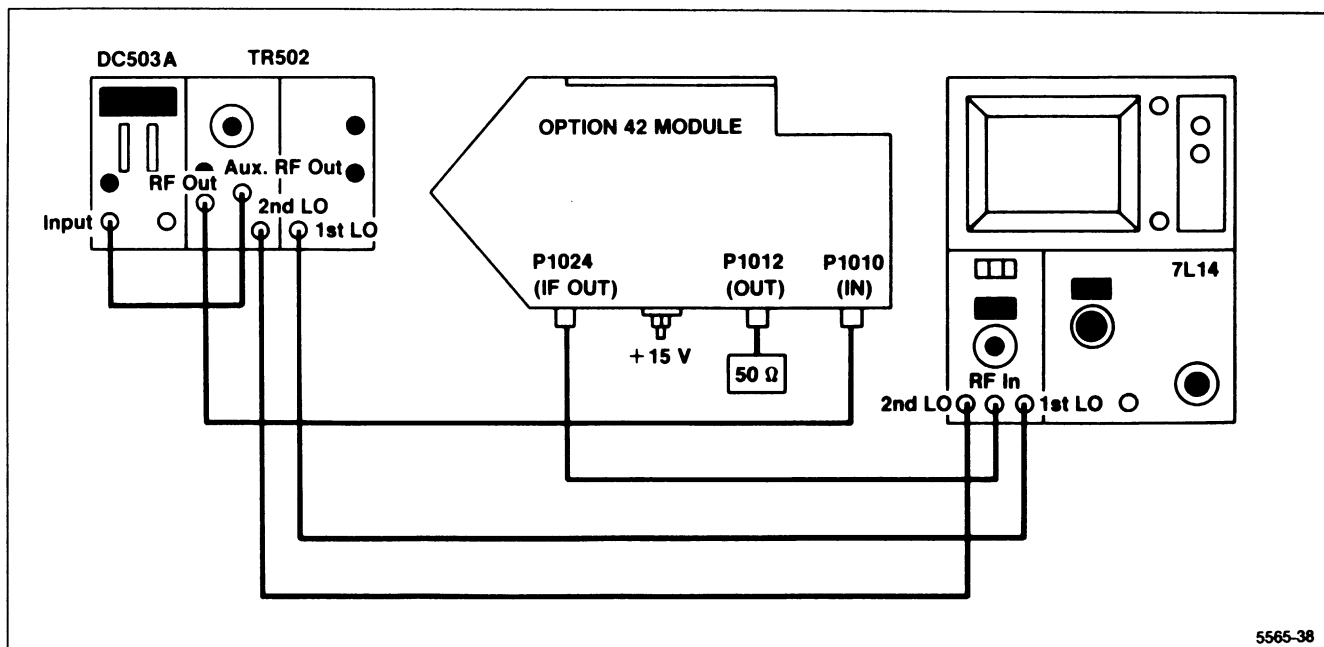

Figure 5-24. Option 42 adjustment test equipment setup.
a. Connect the test equipment as shown in Figure 5-24.